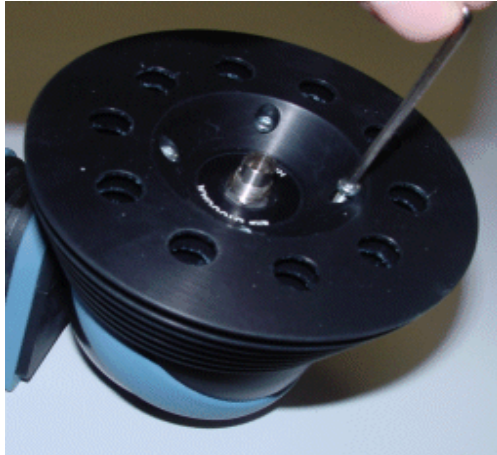

Figure 6 Attaching the Upper Part of the Heat Sink
- 3 Attach the upper part of the heat sink to the integrating sphere. Slide the upper part over the connector adapter with the largest diameter facing opposite to the sphere. Tighten the screws with the Allen key enclosed in the Heat Sink Kit (see Figure 6 ).